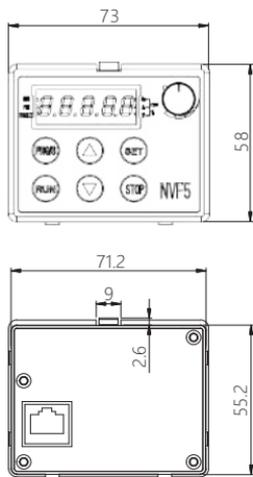

Figure 6-5 Dimensional drawing of display
- a) For first option, the direct installation dimensions of the display are shown in Figure 6-5 and Figure 6-6: